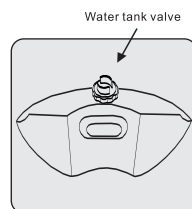

Figure 6
2. Remove the Water Tank, turn it upside down, and unscrew the Valve Cap (See Figure 6). Fill the Water Tank with cool water, and replace the Valve Cap. Do not use hot water. To prolong the lifetime of your steamer, we recommend using distilled or de-mineralized water. Place the water tank back into the unit and make sure it is sitting properly and securely in the cavity. Do not let the steamer operate with a dry water tank, or the damage to the unit could occur.